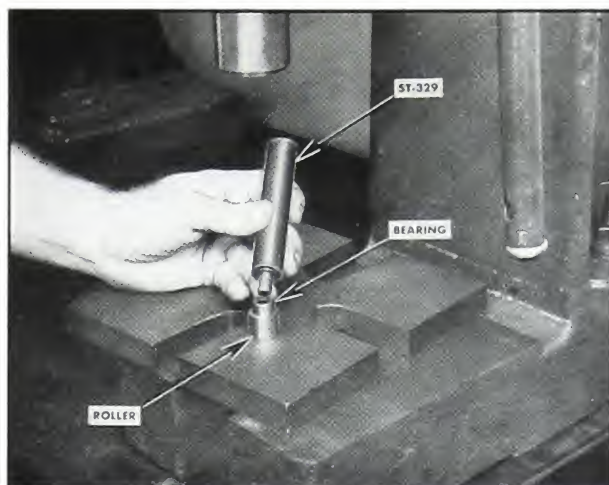

Fig. 5-220. Assembling bearing to roller
2. When necessary, remove the vertical lever roller by pressing out the roller pin. If the roller pin is brinelled and must be replaced, the needle bearing must also be replaced. Fig. 5-220.
3. The needle bearing is assembled to the roller with an interference fit, and it should be removed by pressing. Fig. 5-220.
4. To assemble, use ST-329 pressing mandrel. Fig. 5-220. See General Instructions.